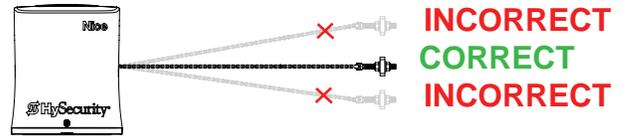
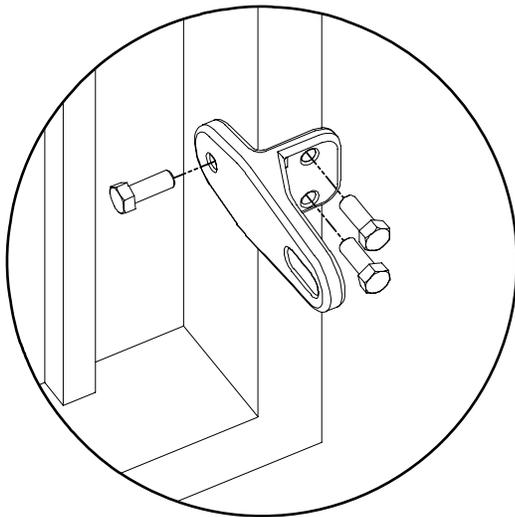
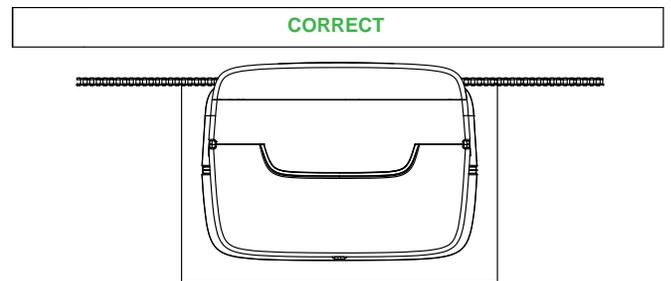
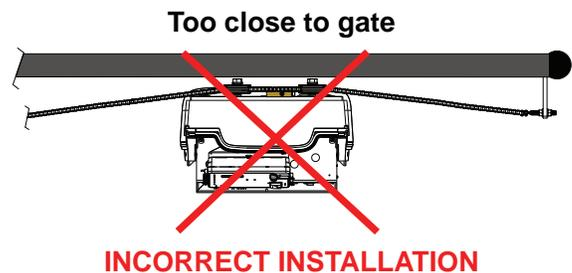

Figure 14. Correct Bracket Height
Figure 13. Attach Gate Bracket
Figure 17. Correct Distance to Gate
Figure 18. Incorrect Distance to Gate
6. Alternatively, weld the gate brackets in place (Figure 13 and Figure 14).
12. Chain must be parallel to ground and gate (Figure 14, Figure 17, Figure 18).